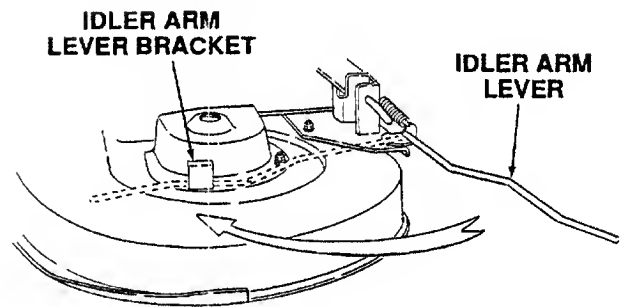

Figure 60
14. While holding the belt in position, rotate and engage the deck idler arm lever into its stop bracket to provide tension on the PTO belt (Refer to Figure 60).